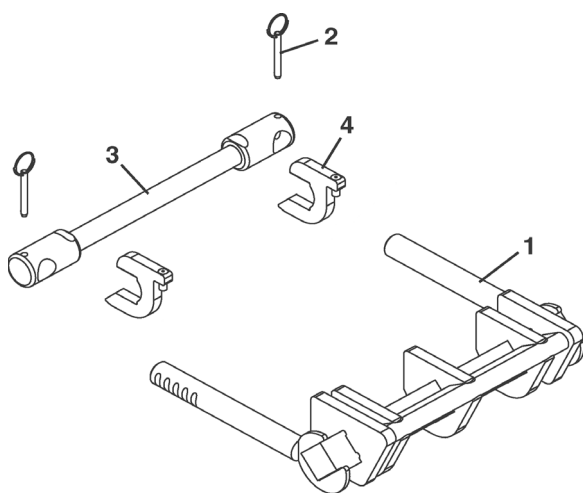

Figure 17
Typical Nose Bar Tip Up Tail Components (Figure 17)
*Adjust the acorn nuts (Figure 17, item 5) on the key stops (Figure 17, item 4) to raise or lower the tip up tail assembly.*